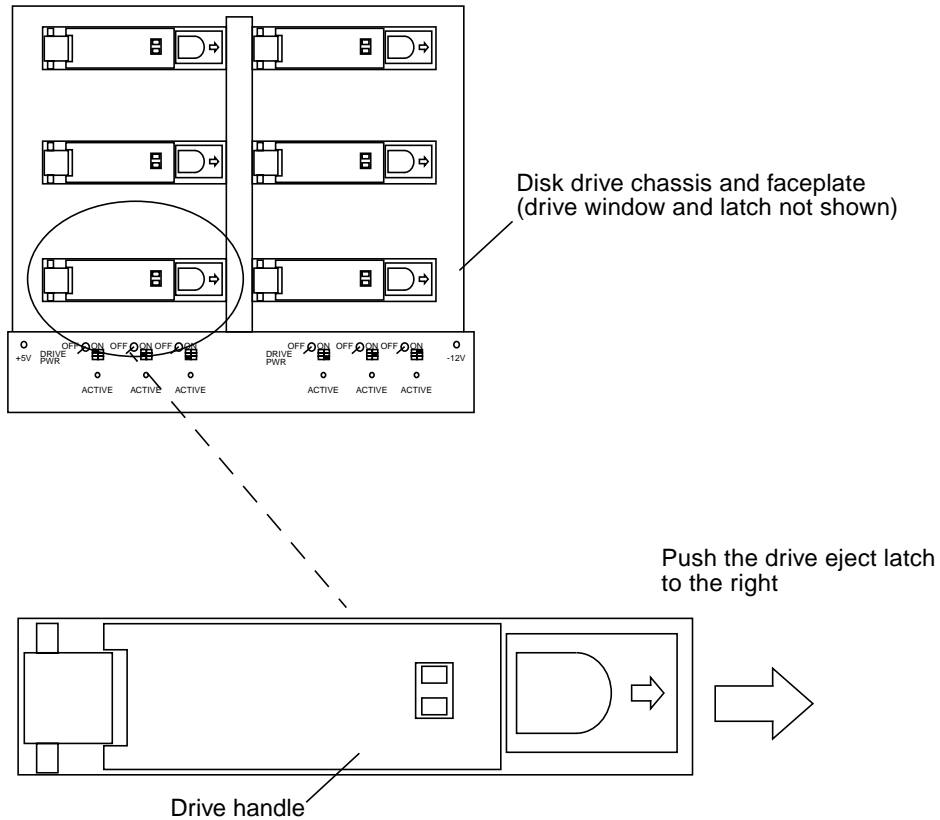

FIGURE 6-9 Disk Drive Eject Latch and Handle
4. **Push the drive eject latch to the right. See FIGURE 6-9. The disk drive handle opens and the drive releases from the backplane connector.**